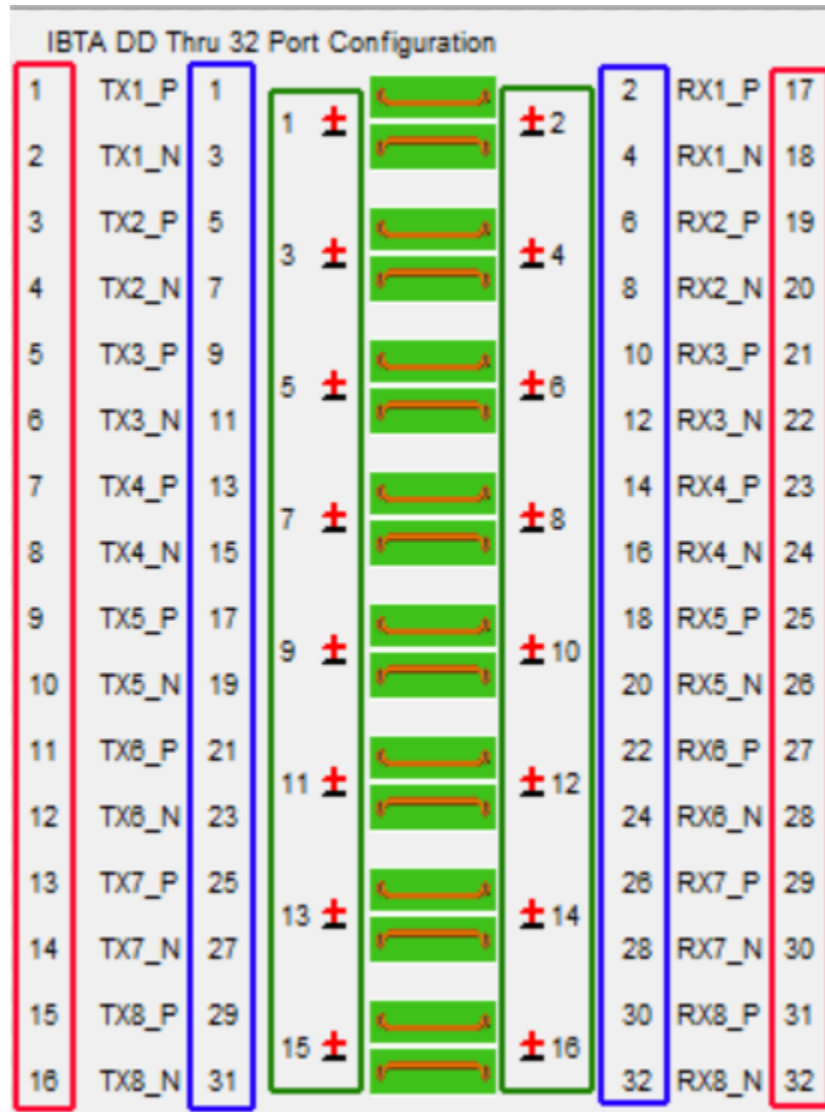

Figure 33 – QSFP-DD Connection Setup
- 1) Attach the first 16 VNA cables to MCB1 (Tx1 to Tx8 – see Figure 33)
- 2) Attach the second 16 VNA cables to MCB2 (Rx1 to Rx8 – see Figure 33)
- 1) Attach the all 32 VNA cables to MCB1 (see figure 33 – Tx and Rx connections are the same, but on the same MCB)